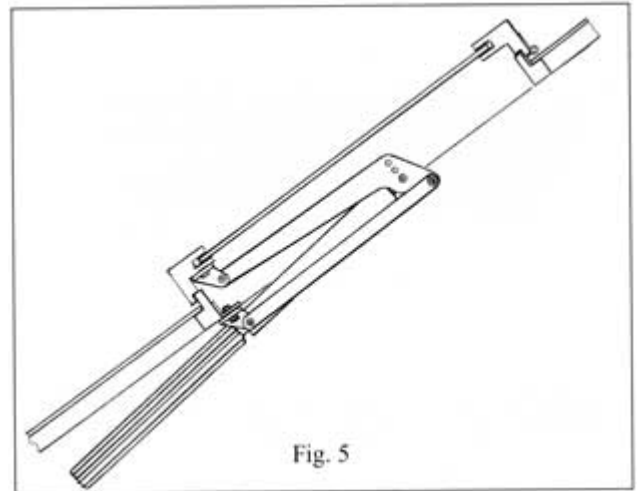

Fig. 5
1. Firstly you will have to choose in which direction you want the spring/shock absorber - and later the cylinder- to face (see fig. 5+6). If it does not by delivery face in the desired direction, then you yourself can undo it and turn it a 180 (see fig. 2 + 3 + 4) before refastening it.
4. Turn the relief bolt (relieves the spring load during .4 installation) until the arms all by themselves stay in the desired position for being fastened. Now the brackets can be fastened to the frame and the sill (see fig. 5 + 6), while the window or the lid is kept closed. Notice : the arms closest to the window should be parallel to it (see fig 5 + 6).